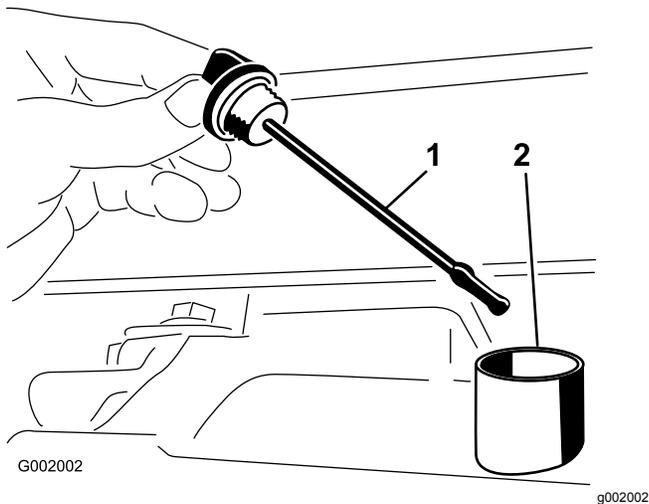

Figure 37
2. Remove the transaxle dipstick and wipe it with a clean rag (Figure 37).